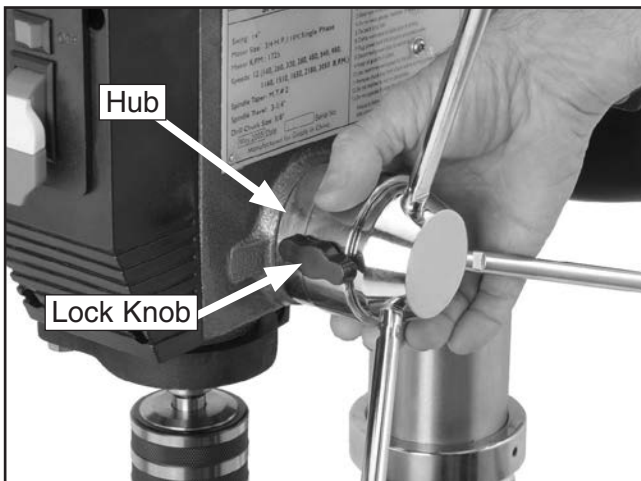

Figure 31. Rotating hub.
3. Loosen the lock knob and rotate the hub (**Figure 31**) clockwise until it stops.